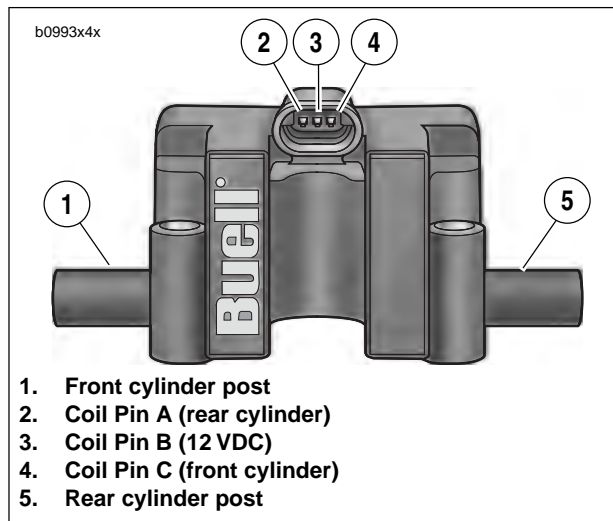

Figure 4-160. Ignition Coil
See Figure 4-160. The coil receives power from the ignition relay at coil pin B (3) at the same time that the fuel pump and injectors are activated.